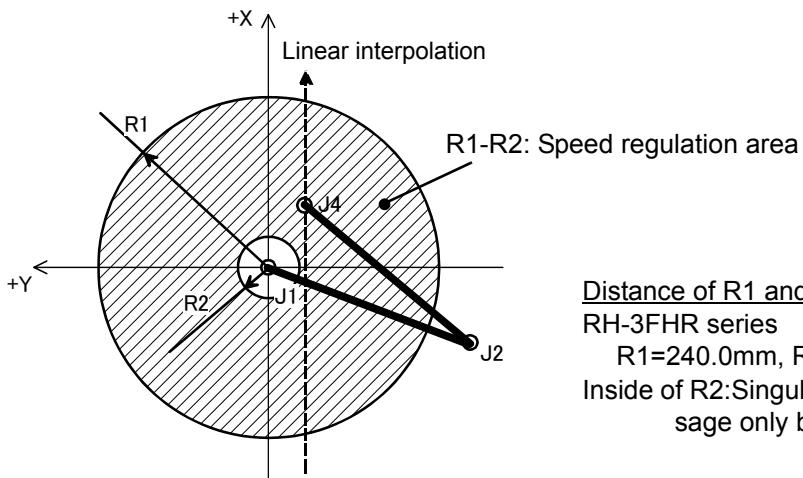

Fig.4-34:Speed regulation area and singular point area
- (3) This command is valid only in linear interpolation movement. It functions in neither joint interpolation nor circle interpolation. And, even if the speed optimization function is valid, if the J4 axis does not pass through the area shown in "Fig. 4-34 Speed regulation area and singular point area" by linear interpolation, this does not function.
- (4) The initial condition of the speed optimization function at turning ON the power supply can be changed with parameter SPDOPT. This parameter also limits the models which can be used. The initial value in the target models is SPDOPT=1 (speed optimization valid).
- (5) If the End instruction or a program reset operation is executed, the status of the speed adjustment function returns to the initial state immediately after the power is turned on.
- (6) When the speed adjustment function is enabled, error 2804 will be generated if the XYZ interpolation by which the J4 axis passes through a singular point area shown in Fig. 4-34 is executed, and the operation is then suspended.
- (7) Even if this instruction is described in a program, it is ignored on models other than the applicable models.
- (8) Even if the speed adjustment function is enabled, an exceeded speed error may be generated if a path is connected by enabling the Cnt instruction near the origin point, or a XYZ interpolation operation that drastically changes the posture is executed. In such a case, move the position where a path is connected away from the origin point, or adjust the speed by using the Ovrd instruction.
- (9) In the case of a XYZ interpolation that operates slightly in the horizontal direction but operates significantly in the vertical direction, the operation speed may degrade drastically when the speed adjustment function is enabled vs. when it is disabled. In such a case, disable the speed adjustment function, or operate by using a JOINT interpolation (Mov command).